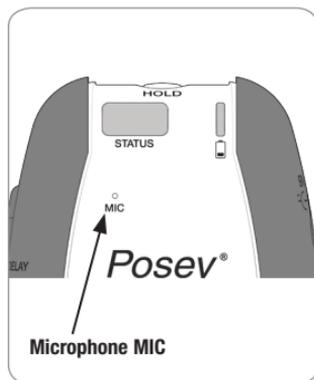

Fig. 10
6. In a normal voice, speak into the microphone aperture labeled MIC on front, top left corner of alarm (Fig. 10).